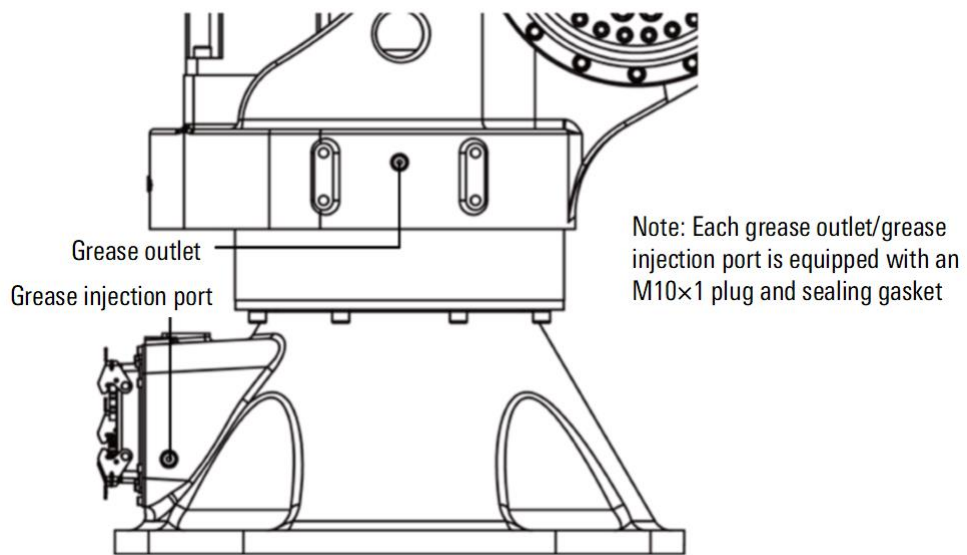

Figure 10-6 Replace J1 axis reducer grease
- Step4. Remove the M10x1 plug and sealing gasket of the grease outlet, as shown in Figure 10-6.